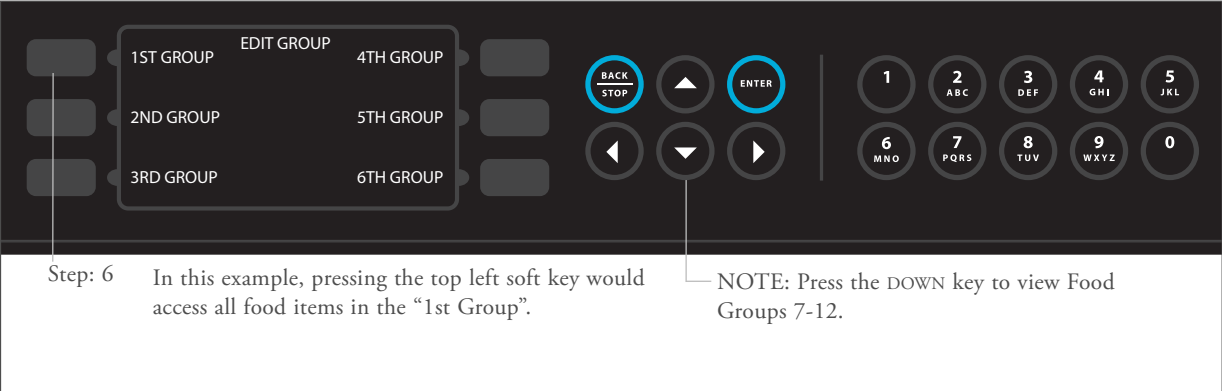

FIGURE 19: Modifying Recipes – Step 6
6. Select the food group that contains the item to be modified (Figure 19).